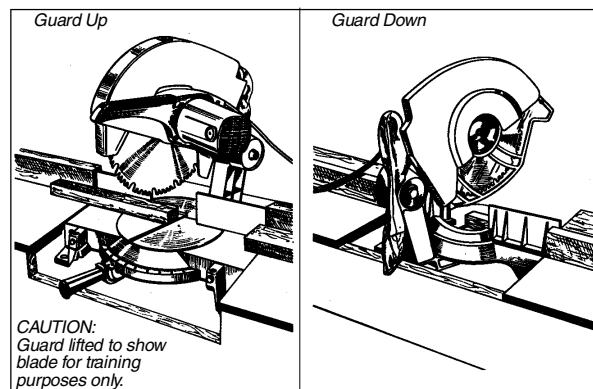

Figure 165 — Some large chop saws may require additional precautions.
- With some large chop saws (Figure 165), additional precautions are required because of the tremendous torque the saws can develop.